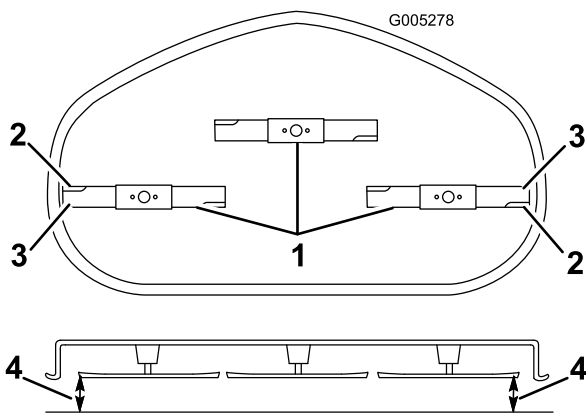

Figure 41
5. Carefully rotate the blade(s) side to side (Figure 41). Measure between the outside cutting edges and the flat surface (Figure 41). If both measurements are not within 3/16 inch (5 mm), an adjustment is required; continue with this procedure.
6. Measure between the outside cutting edges and the flat surface (Figure 41). If both measurements are not within 3/16 inch (5 mm), an adjustment is required; continue with this procedure.